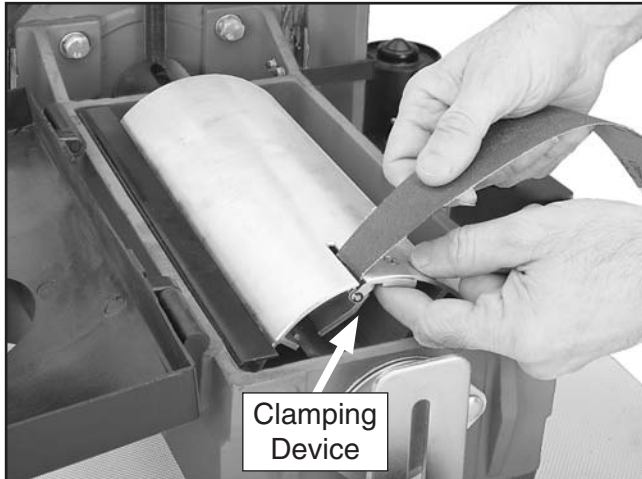

Figure 19. Releasing the clamping device on the left side of the drum.
4. Unwind the sandpaper strip from the drum until you reach the clamping device on the left side (see **Figure 19**).